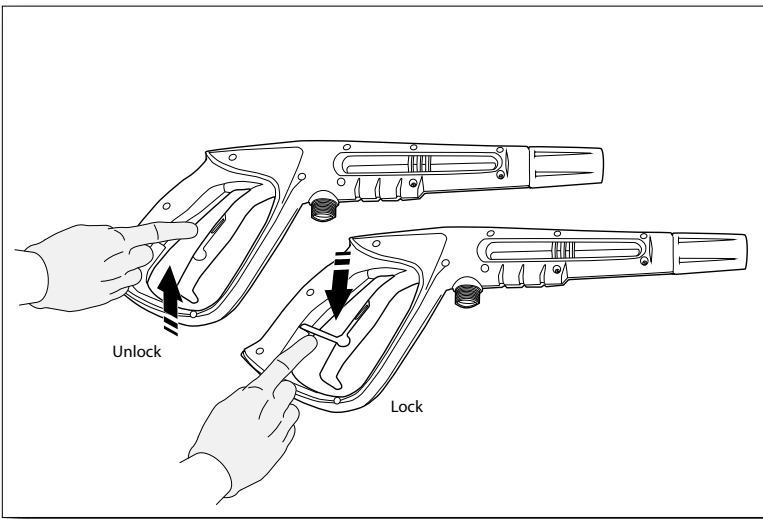

Fig. 8
- To lock the trigger of the spray gun pointing the gun away from you and push down the trigger lever down and wedge between the trigger and the handle (**Fig. 8**). Always leave in locked position when not in use. This ensures the gun is in “safe” mode until it is ready for use. To unlock push trigger lock up and press into trigger.